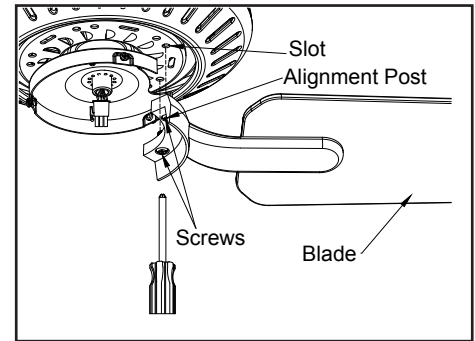

Figure 15
3. Fasten the blade assembly to the motor by tightening the motor screws. Please note that the motor screws are preattached into the blade brackets. (Figure 15)